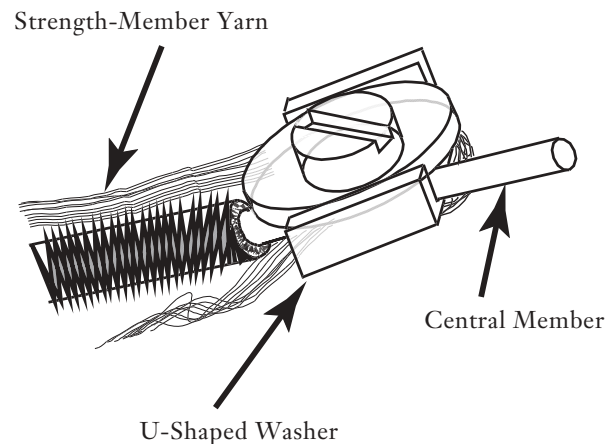

Figure 23
- b) Insert the central member of the cable between the flat washer and the U-shaped washer (Figure 23).
- c) From the front side of the strain-relief bracket, wrap the strength member yarn in a clockwise direction around the screw and under the U-shaped washer (Figure 23).